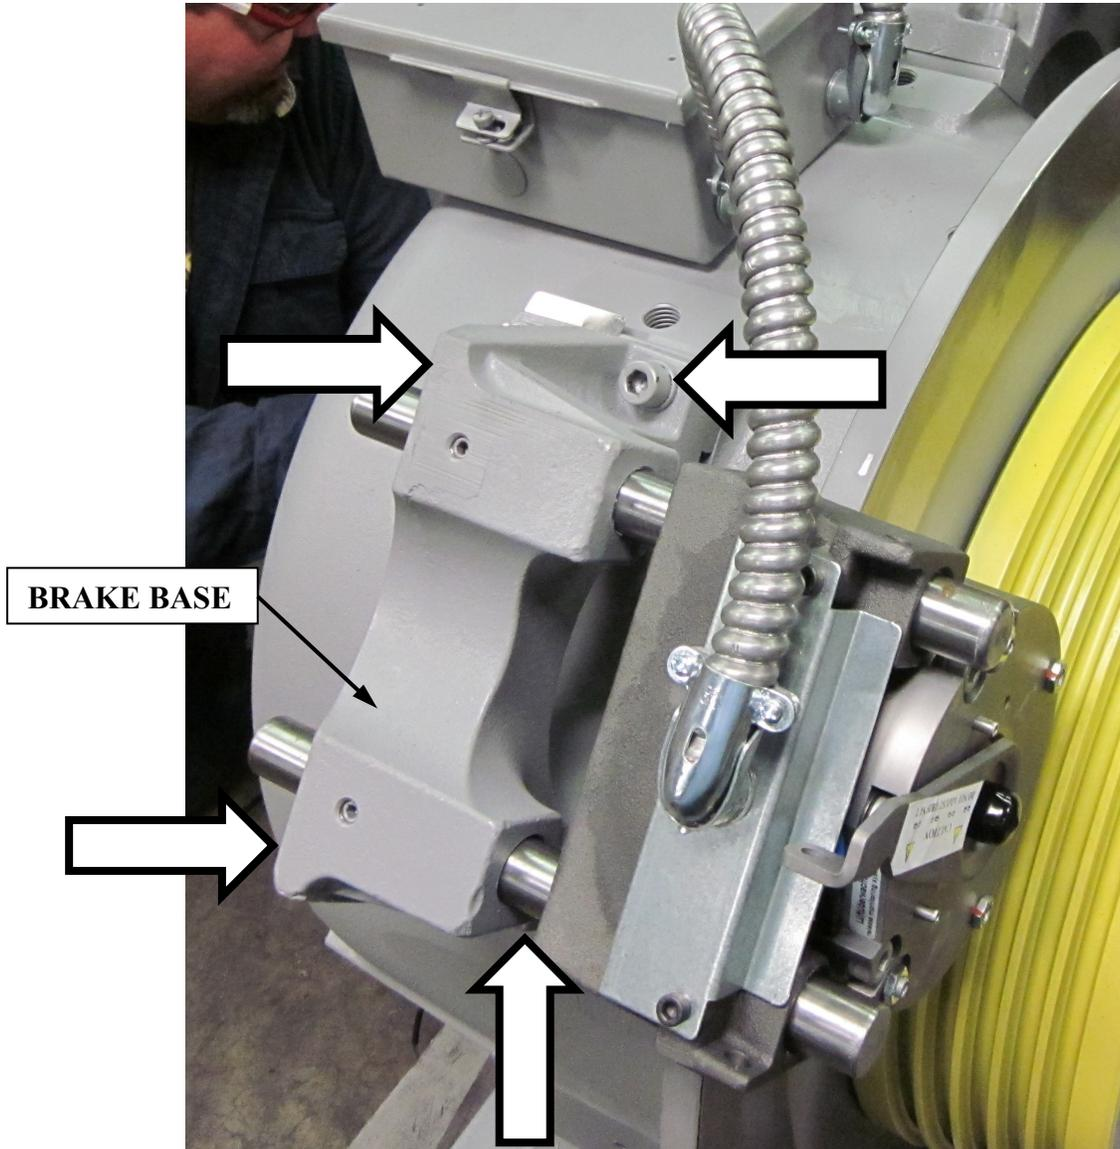

Figure 18
- With the Brake clamping the rotor (de-energized) Use a 3/8” Hex Wrench to loosen (4 per brake) socket head screws “ARROWS”. Shown in Figure 18